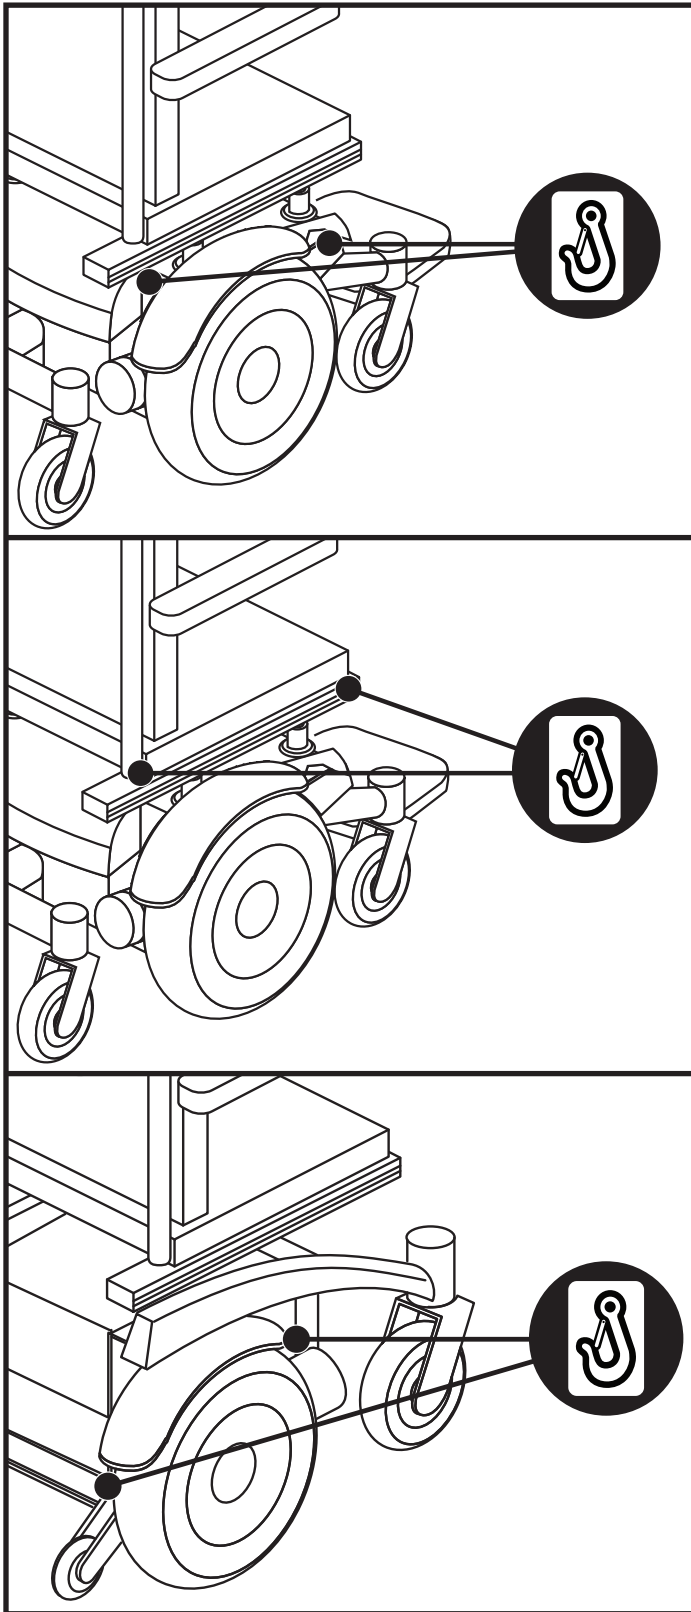

Figure 3. WTORS Belt Restraint 4-Point Securement (Right Side Shown)
- The Pride Transit Securement System includes WTORS belt restraint anchor points in conformance with ANSI/RESNA WC/Vol. 4, Section 19/ISO 7176-19. See figures 3 and 4.